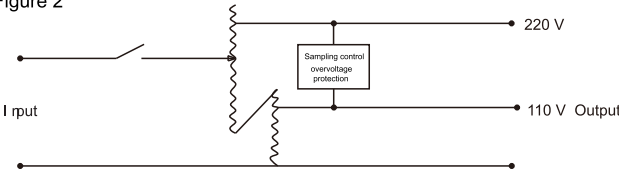

Figure 4
- ☐ See Figure4 for the electrical schematic diagram of single-phase voltage regulator;